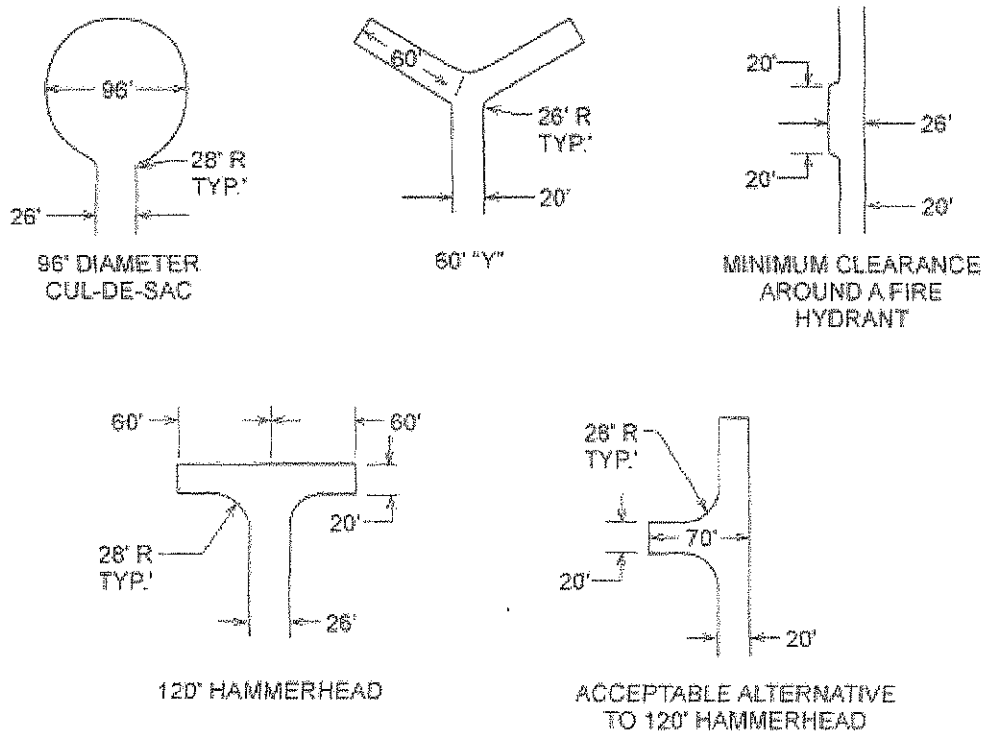

FIGURE D103.1
- Fire apparatus access roads in excess of 150 feet and dead end shall be provided with a turnaround. Length 151-500 feet shall be a minimum of 20 feet in width and have a 120 foot Hammerhead, 60-foot "Y" or 96-Foot diameter Cul-de-sac in accordance with Figure D103.1 of the 2013 CFC. Length 501-750 feet shall be 26 feet in width and have a 120 foot Hammerhead, 60-foot "Y" or 96-Foot diameter Cul-de-sac in accordance with Figure D103.1 of the 2013 CFC.